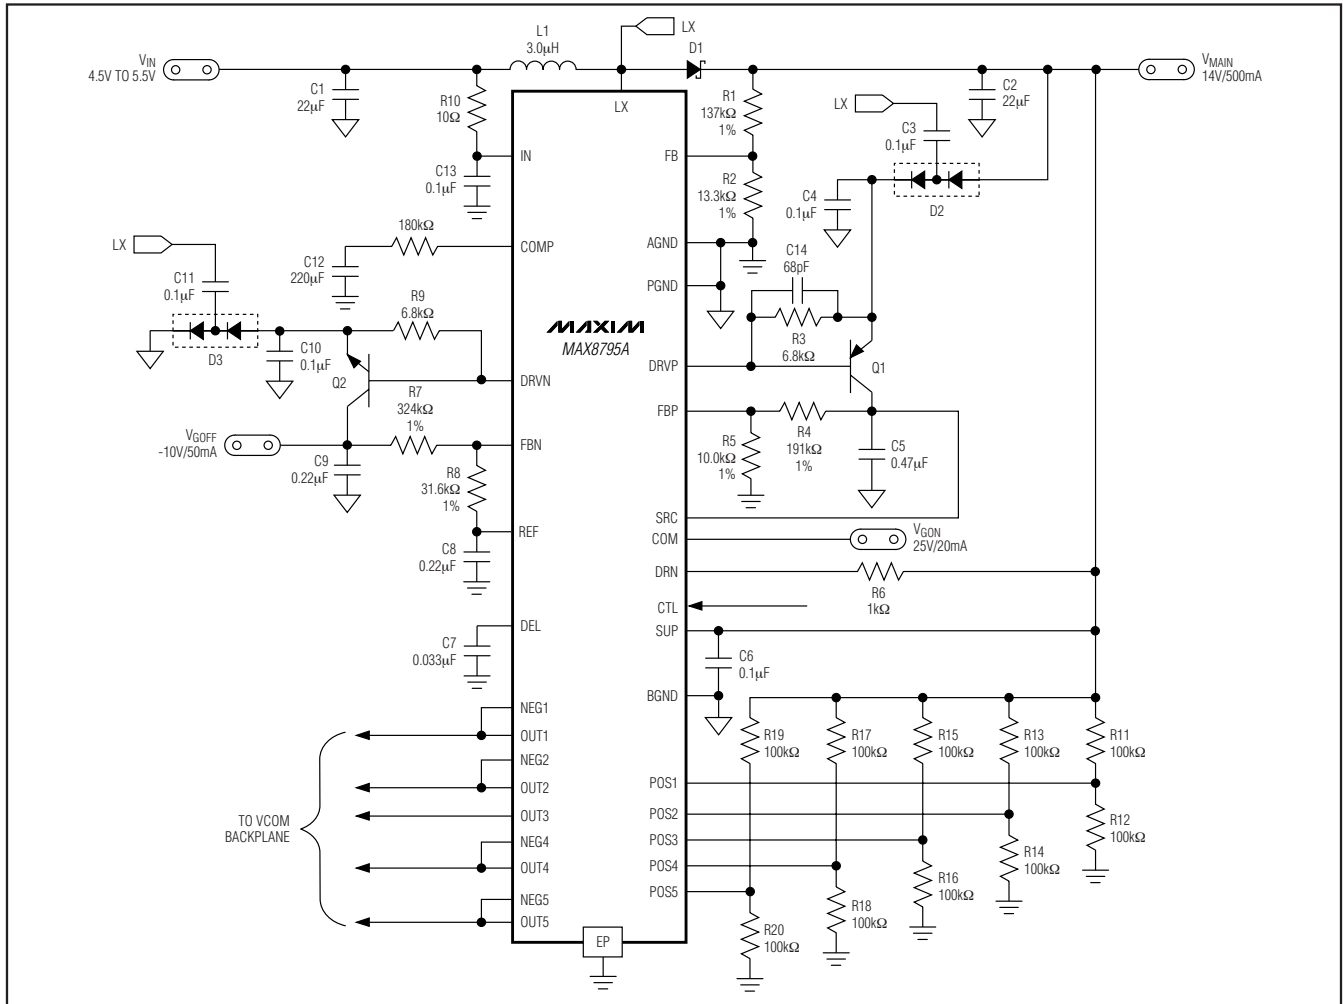

Figure 1. Typical Operating Circuit
(Circuit of Figure 1, $V_{IN} = 5V$, $V_{MAIN} = 14V$, $V_{GON} = 25V$, $V_{GOFF} = -10V$, $T_A = +25^{\circ}C$, unless otherwise noted.)
(Circuit of Figure 1, $V_{IN} = 5V$, $V_{MAIN} = 14V$, $V_{GON} = 25V$, $V_{GOFF} = -10V$, $T_A = +25^\circ C$, unless otherwise noted.)
The MAX8795A typical operating circuit (Figure 1) is a complete power-supply system for TFT LCDs. The circuit generates a +14V source-driver supply and +25V and
-10V gate-driver supplies. The input voltage range for the IC is from +2.5V to +5.5V. The listed load currents in Figure 1 are available from a +4.5V to +5.5V supply. Table 1 lists some recommended components, and Table 2 lists the contact information of component suppliers.
The gate-on linear-regulator controller (REG P) is an analog gain block with an open-drain n-channel output. It drives an external pnp pass transistor with a 6.8kΩ base-to-emitter resistor (Figure 1). Its guaranteed base-drive sink current is at least 1mA. The regulator including Q1 in Figure 1 uses a 0.47μF ceramic output capacitor and is designed to deliver 20mA at 25V. Other output voltages and currents are possible with the proper pass transistor and output capacitor. See the *Pass-Transistor Selection and Stability Requirements* sections.
The gate-off linear-regulator controller (REG N) is an analog gain block with an open-drain p-channel output. It drives an external npn pass transistor with a 6.8k Ω base-to-emitter resistor (Figure 1). Its guaranteed base-drive source current is at least 1mA. The regulator including Q2 in Figure 1 uses a 0.47 μ F ceramic output capacitor and is designed to deliver 50mA at -10V. Other output voltages and currents are possible with the proper pass transistor and output capacitor (see the *Pass-Transistor Selection* and *Stability Requirements* sections).
REG N is typically used to provide the TFT-LCD gate drivers' gate-off voltage. A negative voltage can be produced using a charge-pump circuit as shown in Figure 1. REG N is enabled after the voltage on REF exceeds 1.0V. Each time it is enabled, the control goes through a soft-start routine that ramps down its internal reference DAC from VREF to 250mV in 128 steps.